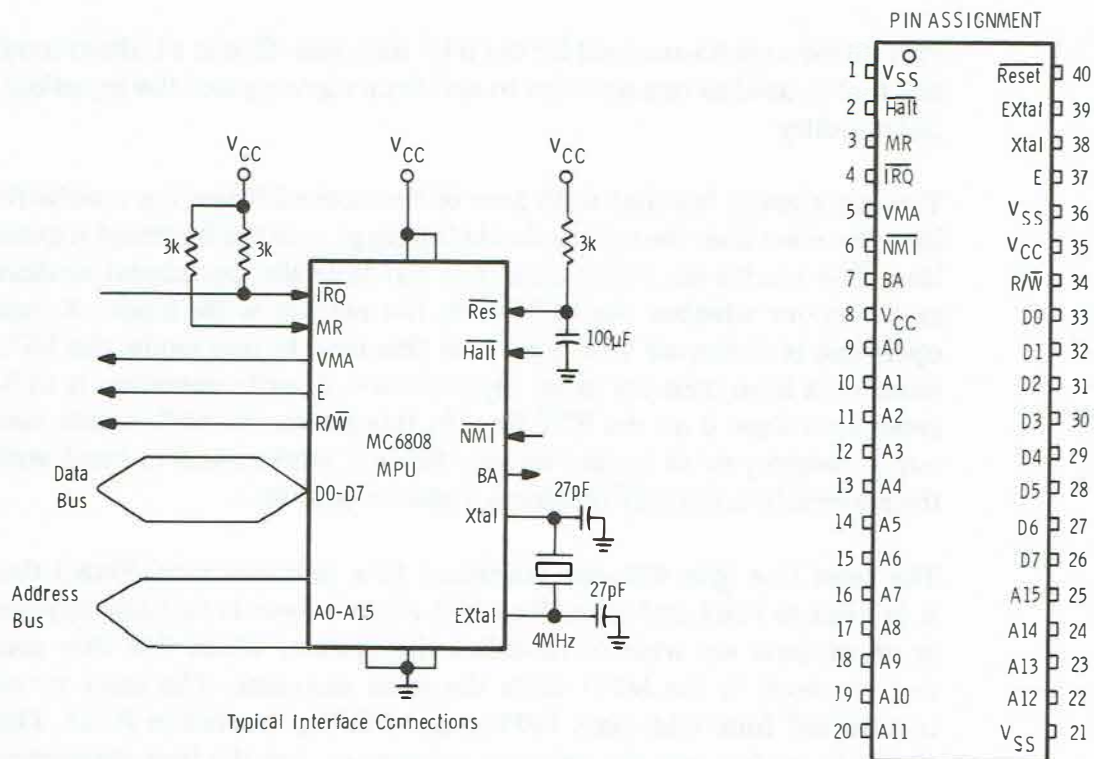

Figure 10-7
Before you can interface a microprocessor to its support circuits or to the outside world, you must become familiar with its pin assignments, control lines, etc. Figure 10-7 shows the pin assignments and typical interface connections of the 6808 MPU, which is used as the controller for the ET-18. Notice that the MPU is in a single 40-pin dual-in-line package.
The 6808 has an internal oscillator that may be crystal controlled. The crystal is connected in a parallel resonant configuration between pins 38 and 39. These are designated as Xtal and EXtal on Figure 10-7. A divide-by-four circuit has been fabricated within the 6808. Thus, a 4 MHz crystal connected to pins 38 and 39 results in a 1 MHz output. This output (pin 37) is designated as "E." The 1 MHz Enable (E) output supplies the clock for peripheral devices.